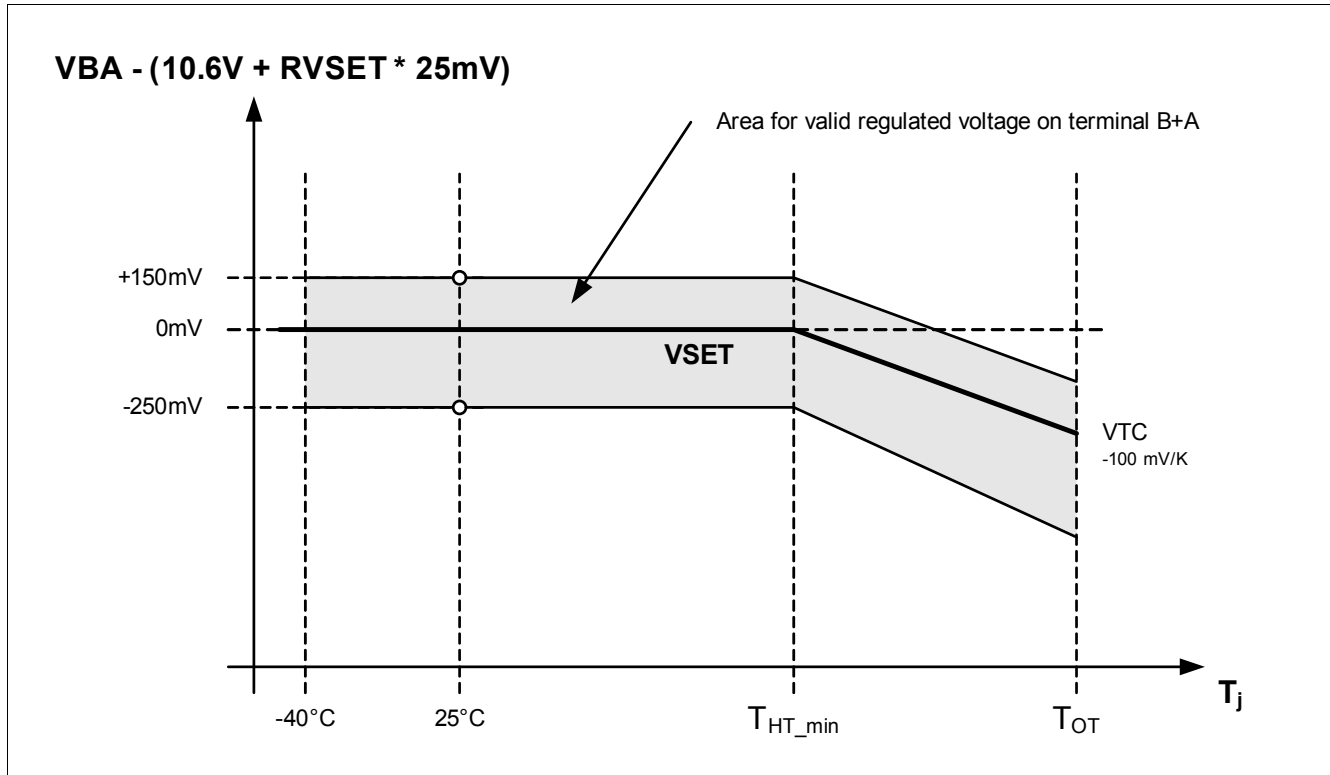

Figure 21 Typical Temperature dependency of VSET
3) For VSET Chapter 6.5.2, Figure 21.